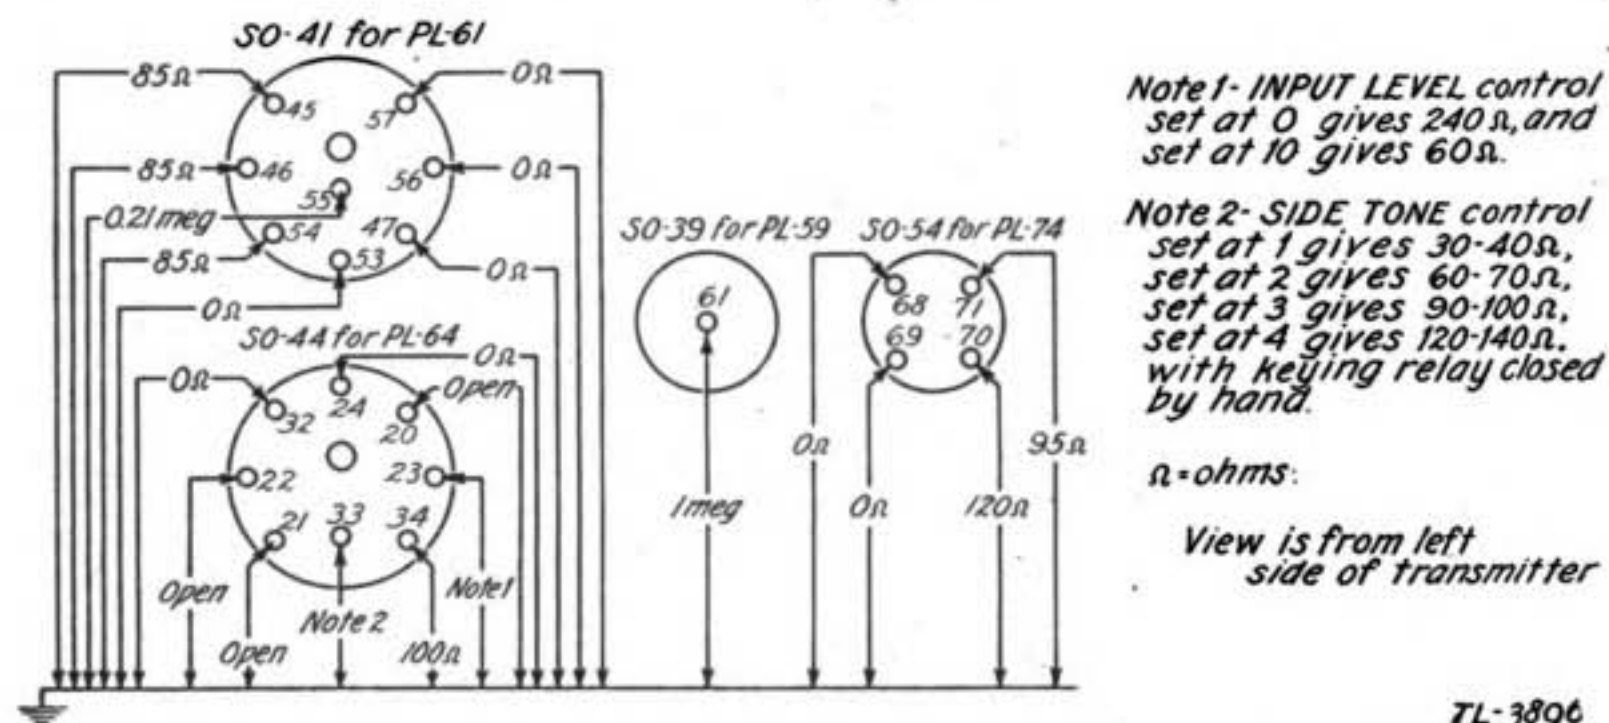

FIGURE 24.—Radio transmitter BC-191-(*), cording sockets pin to ground resistance values.
(3) *Measurements from cord sockets.*—The cording sockets pin to chassis measurements of resistance are shown in figure 24. This figure represents the cord connecting sockets as viewed from the outside of the set. Sockets are easily identified by the number and arrangement of the pins therein.